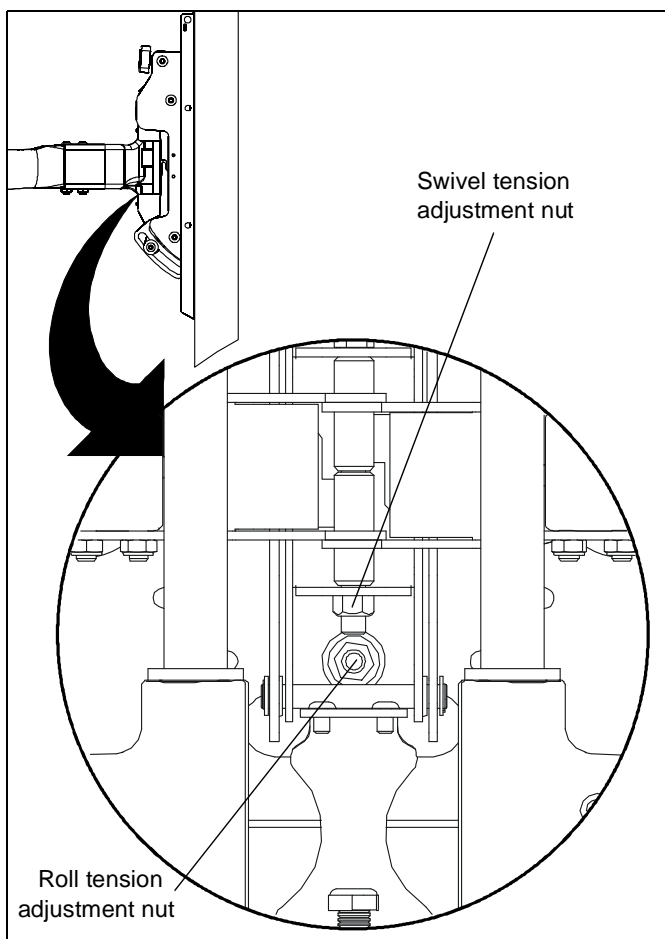

Figure 10
1. Using a 9/16" wrench (not provided), slightly tighten or loosen swivel tension adjustment nut. (See Figure 10)
1. If necessary, loosen or tighten roll tension adjustment nut. (See Figure 10)